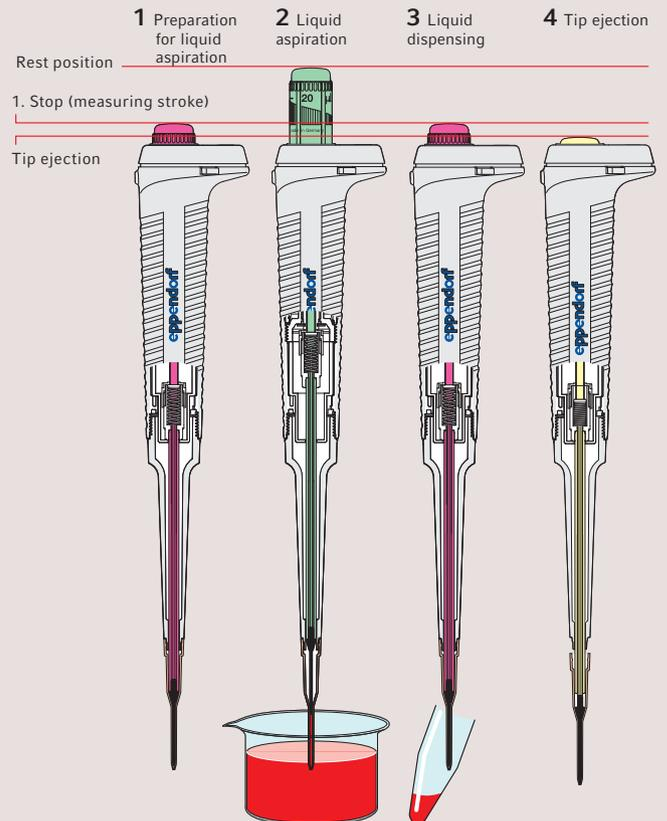

Figure 4: Function of a positive-displacement pipette (Eppendorf Biomaster)
Figure 4 shows the functioning of positive displacement. To prepare for aspiration of the liquid (1), the push-button